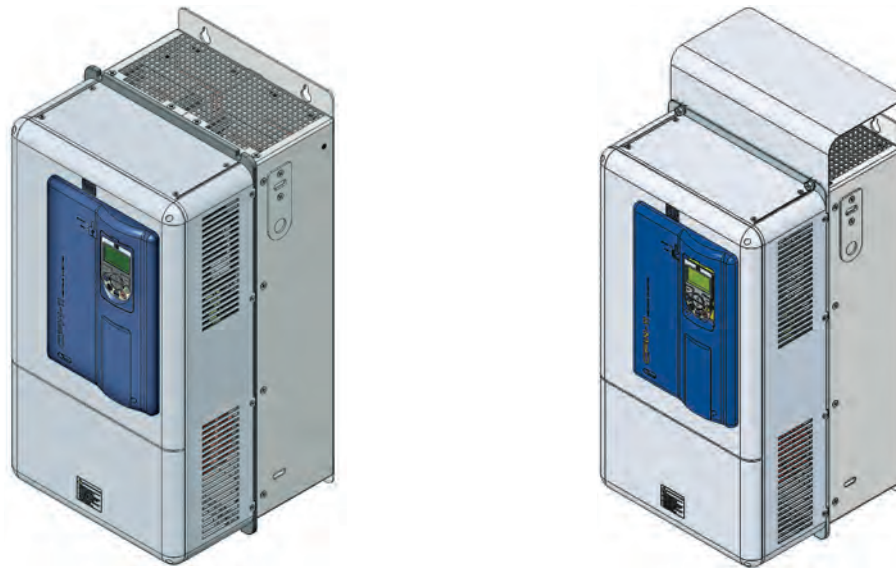

Figure 3.8 - Installation of the Nema1 kit in frame size E model
- ☑ The inverter mounting supports and the hoisting eyes must be removed. Refer to the Figure 3.8 on page 3-11, positions I and J.
- ☑ Install the Nema1 kit on the inverter as shown in Figure 3.8 on page 3-11 using the two M8 screws supplied with the product.